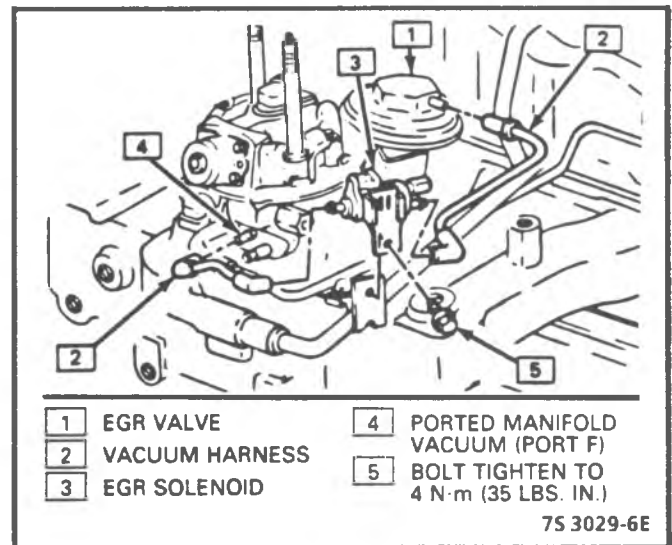

Figure 9-5 - EGR & Solenoid (2.5L)
2. EGR valve vacuum tube at valve. (Figure 9-5 to 9-10).